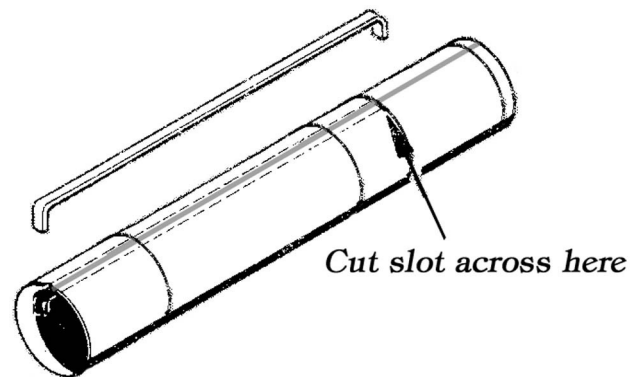

Figure 3
- **Step 8** As shown in Fig. 3 above, insert the engine hooks into both tubes so that 1/4" of the hook extends past the bottom edge of the tube. Apply glue to each mount along the line drawn 1" from the bottom edge of the tube. Slide one of the "A" rings up from the bottom, with the flat notch over the hook, until it is *just forward* of the 1" line. Make sure the hook is aligned directly over the center reference line.